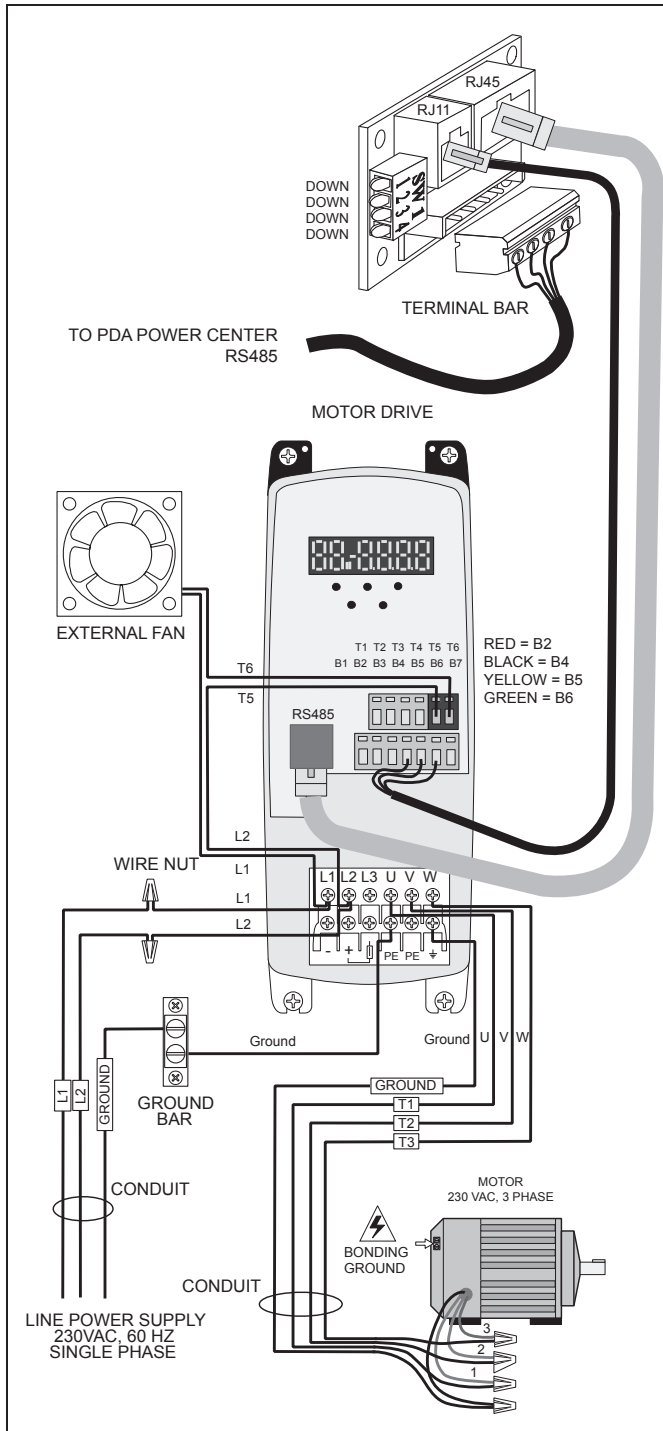

Figure 9. Wiring of the Jandy ePump™ AC Variable Speed Pump to the Motor Drive
This section describes how to connect a Jandy ePump™ AC variable speed pump to the power. As shown in Figure 9, the 230VAC single phase power is supplied to the motor drive. The motor drive supplies the motor with 230VAC three phase power. Low voltage RS485 communications cable from the PDA power center is supplied to the motor drive as well.
6. Permanently ground the motor using green ground wire, as shown in Figure 9. Use the correct wire size and type specified by the National Electrical Code (NEC) and the Canadian Electrical Code (CEC).
7. Bond the motor to the pool structure in accordance with the National Electrical Code (NEC) and the Canadian Electrical Code (CEC). Use a solid No. 8 AWG or larger copper conductor. Run a wire from the external bonding lug to the pool bonding structure, as shown in Figure 9.
As shown in Figure 9, the 4-position dip switch is located on the VFD voltage regulator PCB inside of the motor drive enclosure. This dip switch serves two different functions - it determines what type of control will be used with the pump and it selects the pump address. The SW 1 (switch 1) and SW 2 are turned ON if the pump is to be controlled by stand alone controller or OFF if the pump is to be controlled by the PDA power center.
Refer to Figure 9.